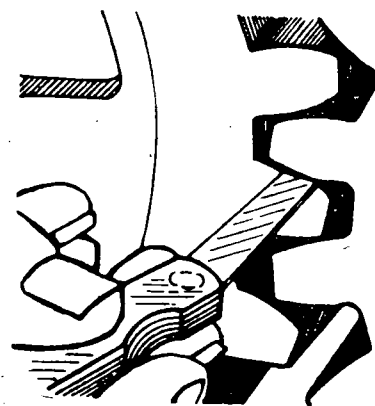

Fig. 1
- b) Measure with the feeler gauge the play or light between the teeth (Fig. 1).